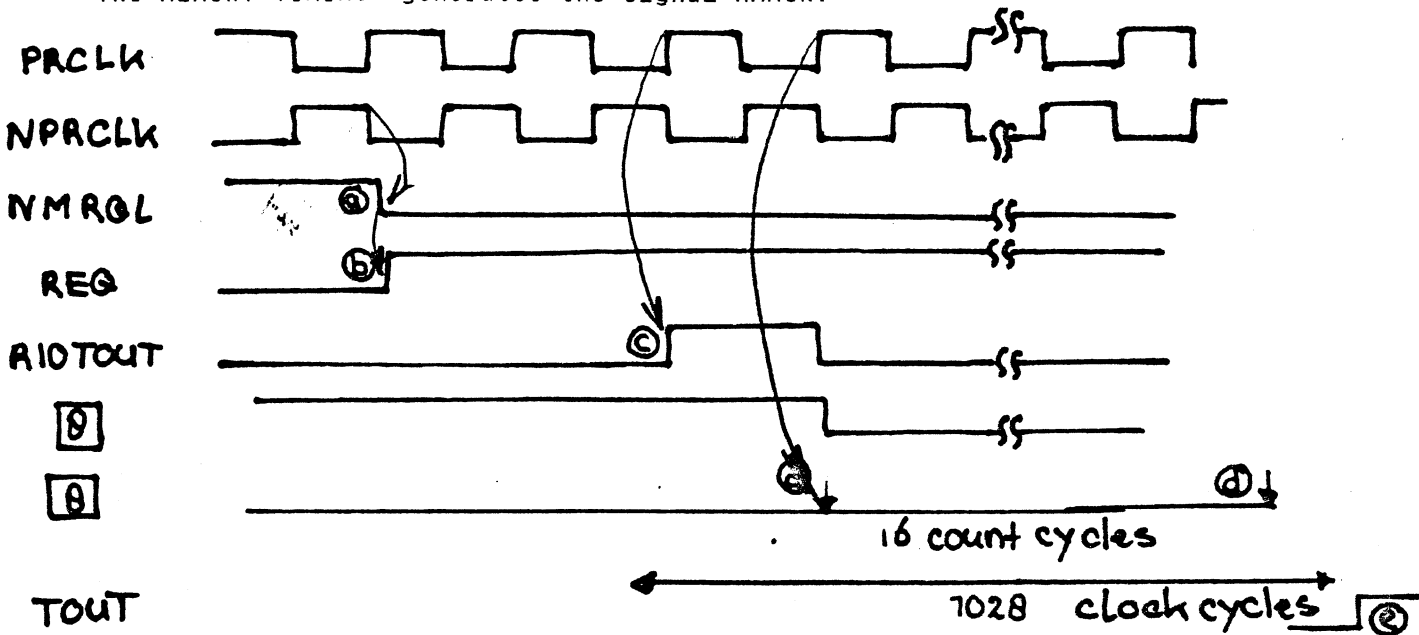

Figure 6.
1. Memory Access (see figure 6)